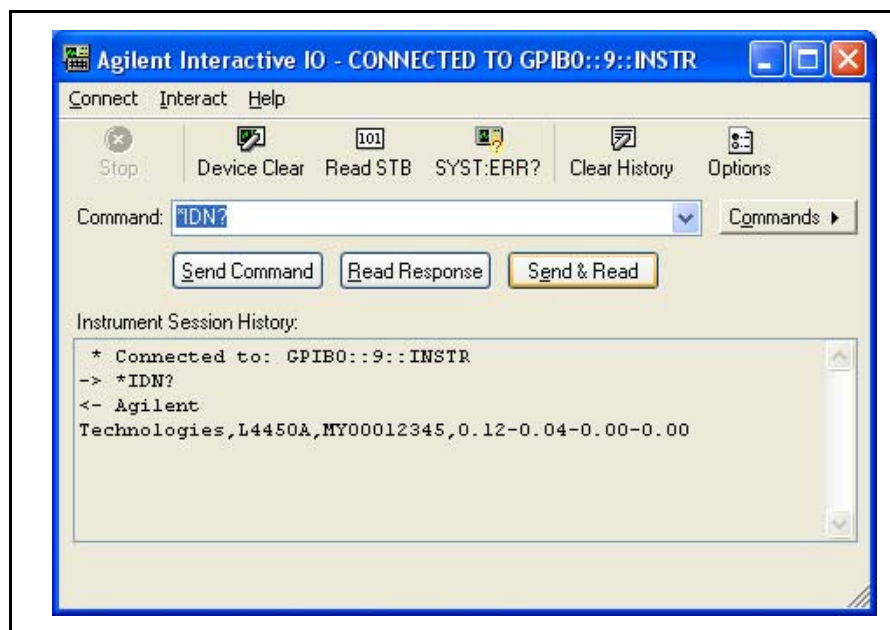

Figure 2-18. GPIB Communication Using the Default GPIB Address.
3. Open the Agilent Connection Expert “Interactive IO” window (Figure 2-18). Change the instrument’s GPIB address using the command: